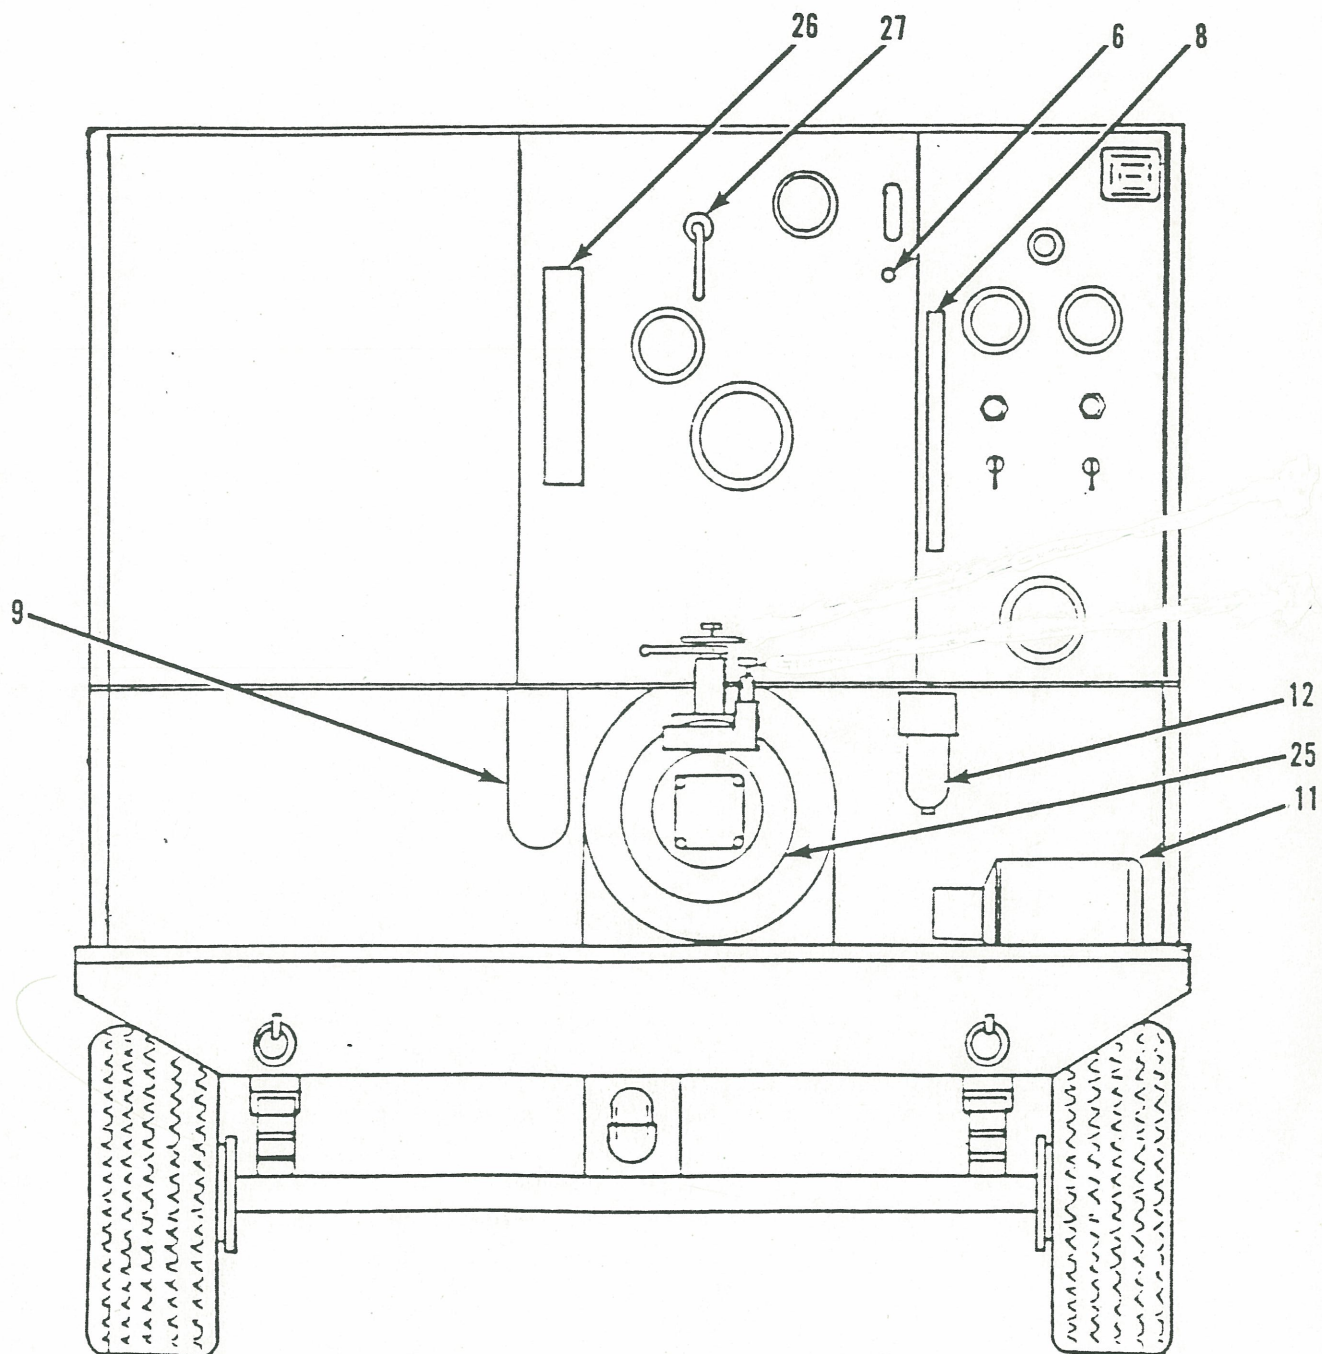

Figure 1-2. Major Components, Rear View. (Sheet 2 of 2)
1-13.       HYDRAULIC FLUID RESERVOIR. (21, Figure 1-2). The pressurized reservoir is designed to supply fluid to the systems during operation in "Stand" position of the reservoir selector valve (27) and to supply fluid to the fill systems. A filler neck (22) and cleanout cover (23) is located on the end of the reservoir allowing manual filling. A fluid level indicator (8) of the sight glass type is also provided on the control panel.